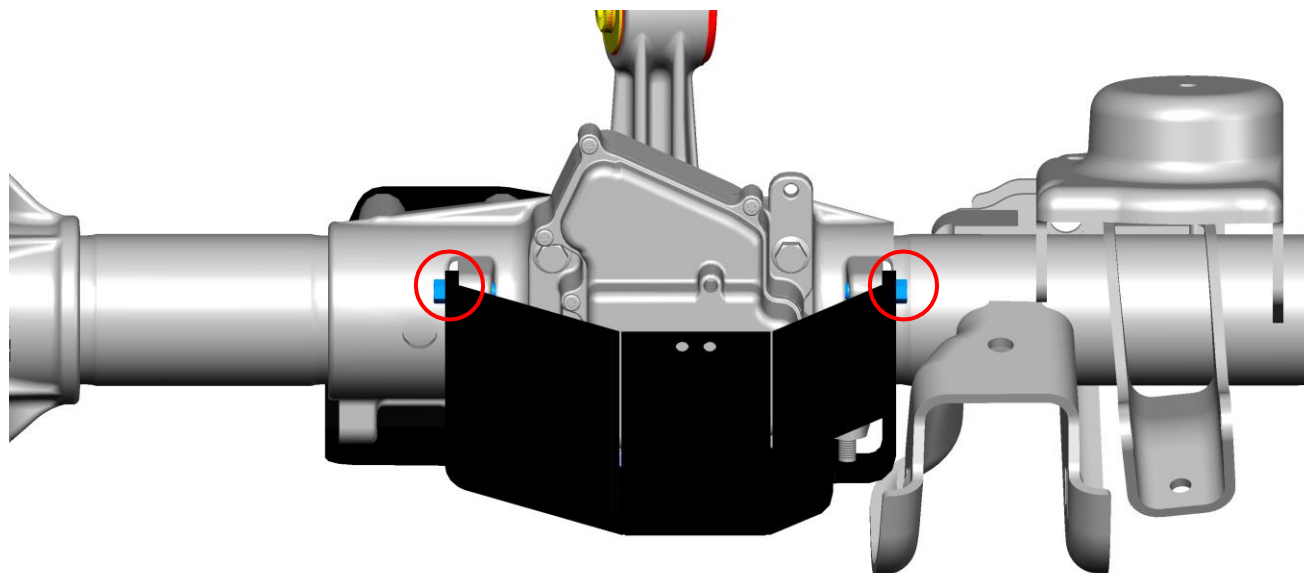

Figure 4: Factory skid plate bolts installed on new FAD skid plate (rear)
4. Using a 10mm socket, install the two upper rear factory skid plate bolts on either side of the FAD housing. Secure them through the new skid plate and into the threaded bosses on the axle. Refer to Figure 4, where these bolts are highlighted.